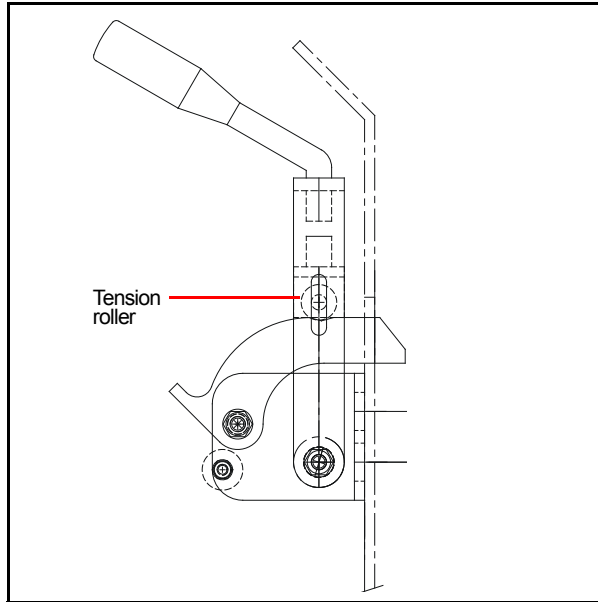

Figure 4-14 Prism in the Engaged Position
- Pivot the clamping lever to the vertical position until the tension roller locks into place (Figure 4-14).